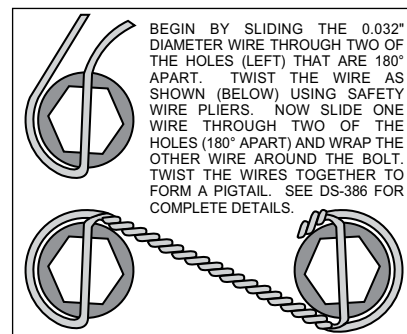

Figure 3. Safety Wire Diagram
•With the larger I.D. side of the rotor (6) facing away from the hat (7), bolt rotor (6) to hat (7) through the backside of the rotor using washers (8), and bolts (9). Apply red *Loctite*® 271 to the bolt threads and torque to 155 **in-lb** using a criss-cross pattern. For an added measure of security, the bolts may be safety wired using standard 0.032 inch diameter stainless steel safety wire as shown in Figure 3. Please refer to Wilwood's data sheet DS-386 (available at www.wilwood.com/Pdf/DataSheets/ds386.pdf) for complete safety wire installation instructions.
•Slide the brake pads (15) up into the caliper (10) from the bottom until the "v" spring clip snaps into place against the anvil. They should install easily without interference.
•Install two shims (14) over each stud (13) on the radial mount bracket (1). Slide the caliper (10) in place over the studs and rotor and install the washer (12) and lock nut (11) to hold the caliper in place. The caliper bleed screw should be pointing toward the front of the vehicle. Snug the lock nuts (11) and check that the caliper (10) is centered over the rotor (6). Add or subtract .016" shims (4) and/or .035" shims (5) as necessary between the caliper mounting bracket (1) and the spindle face to center the caliper (10) on the rotor (6).
•Check that the outside radius of the brake pad (15) is aligned with the outside diameter radius of the rotor face. Add or subtract shims (14) between the caliper (10) and the caliper mounting bracket (1) to gain the proper alignment.
•Once all clearances have been checked, remove the wheel, caliper and rotor from the axle flange. Secure the caliper mounting bracket (1) to the spindle face while applying red *Loctite*® 271 on the bolt threads (2). Torque the bolts (2) to 22 ft-lbs. Reinstall the rotor and again use several lug nuts to hold it in place being sure to align the small countersunk holes in the hat (7) with the corresponding holes in the hub. Reinstall the caliper, torque the caliper nuts (11) to 30 ft-lbs.